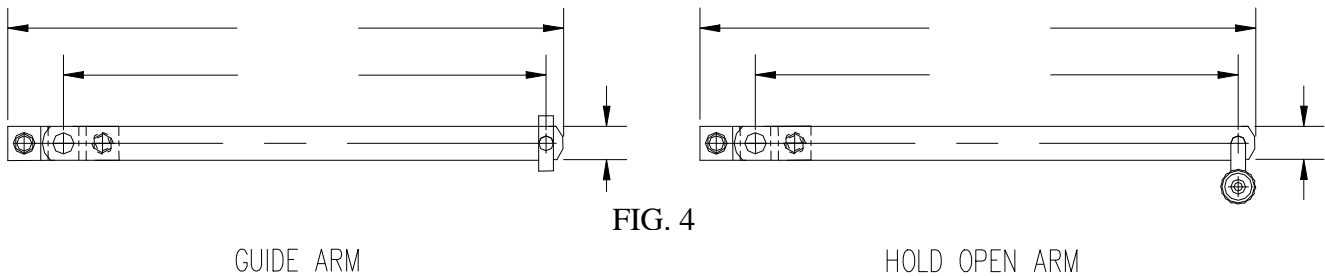

FIG. 4
8. When either hold-open arms or guide arms are needed, provide the following (fig. 4):